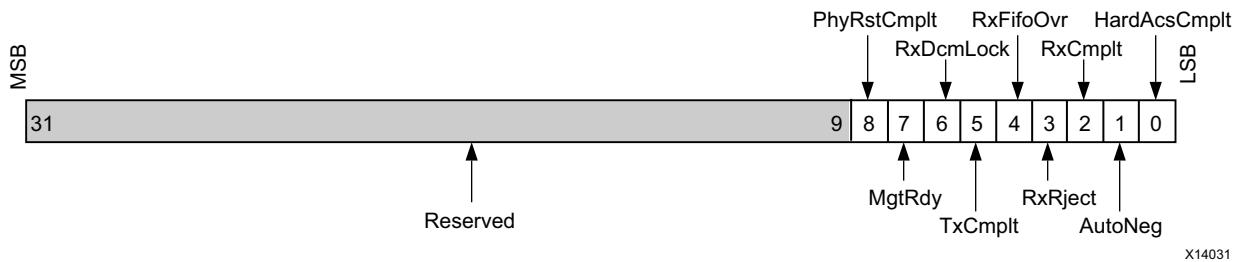

Figure 2-31: : Interrupt Enable Register (0x0000_0014)
The Interrupt Enable (IE) register is shown in Figure 2-31. This register, combined with the IS, IP, MIS, and MIE registers, define the interrupt interface of the subsystem. The Interrupt Enable register uses one bit to represent each subsystem internal interruptible condition represented in the Interrupt Status register. Each bit set in the Interrupt Enable register allows an interruptible condition bit in the Interrupt Status register to pass through to the Interrupt Pending register.